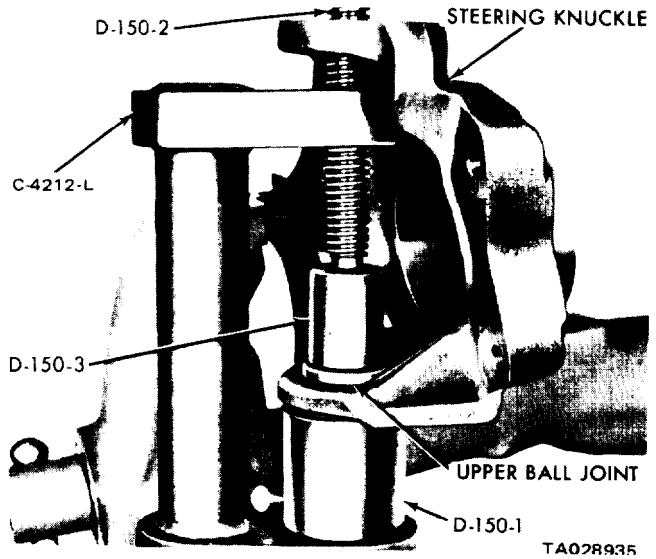

Figure 6-5. Removing Upper Ball Joint from Steering Knuckle.
(14) Using tool C-4212-L and components of adapter set C-4288 as shown in figure 64, press the lower ball joint from the steering knuckle. Reposition the tool as shown in figure 6-5 and press the upper ball joint from the steering knuckle. Replace the ball joints if inspection indicates wear.